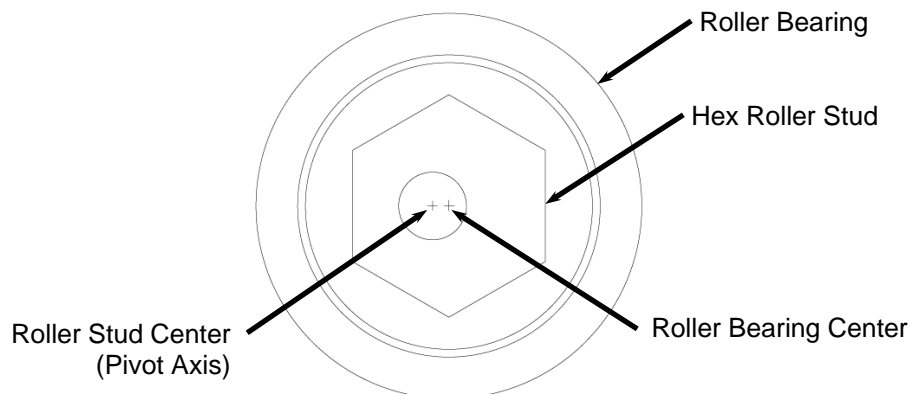

**FIGURE 14:** TOP VIEW OF A PROPERLY INSTALLED Z-TRUCK
- 5. Tighten the adjustable roller bearings:** This is the most important step in the replacement process. First using the 12mm flat wrench to hold the roller stud, tighten the roller screw so that the face of the hex stud is snug against the back of the casting. Do this for both rollers but do not fully tighten the screws. The problem that must be avoided is creating a cant to the truck by not having the face of the roller stud flush with the Z-truck casting. See Figure 14 and 15 for a comparison of a properly and improperly assembled roller.
- d. After tightening check to see that the hex stud is still flush to the casting as in Figure 14.
- f. Next, turn the wrench counter-clockwise while holding the screw in place. Alternate tightening each roller only slightly to balance the preloading. After each tightening check to see that the hex stud is still flush to the casting as in Figure 14. The proper preload level is reached when you can no longer rotate the bearing against the rail with your fingers. If it is too loose you will be able to have the bearing skate across the rail surface without the truck moving. Once the rollers have the correct preload hold the wrench still and tighten the screw as much as possible by hand.